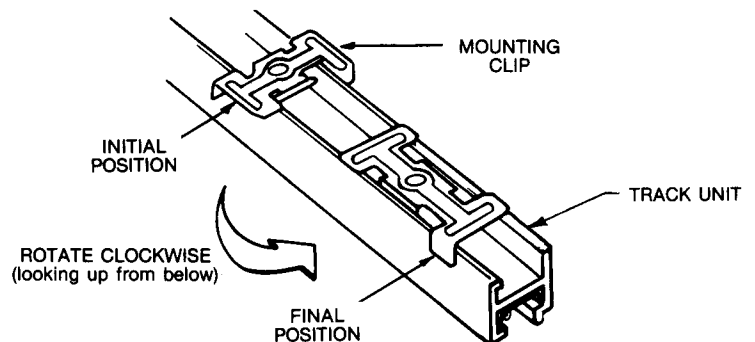

FIG. 5
6. Secure the TRACK UNIT by rotating the TRACK MOUNTING CLIP clockwise. See Fig. 5.